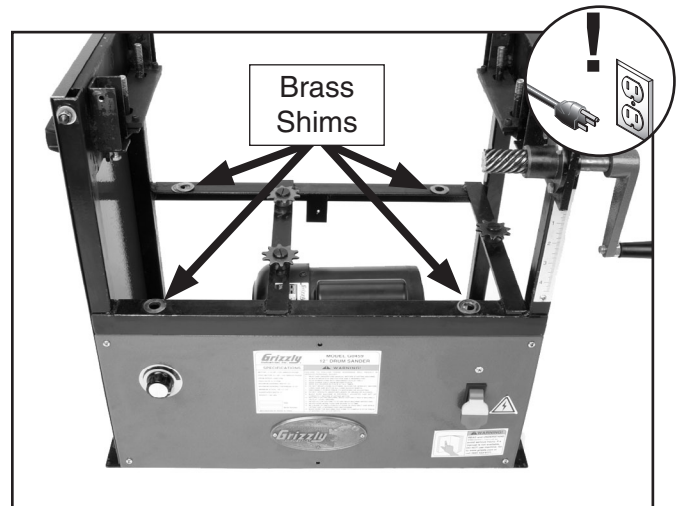

Figure 47. Brass shims.
*Before removing the table, note the number and location of brass shims (**Figure 47**) under the table lift screws. Knowing their correct position will help you align the conveyor table during reassembly.*